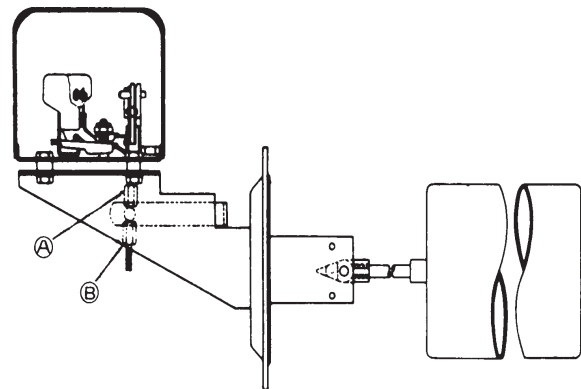

FIGURE 4a
- Adjustment of the pump start and stop points is achieved by adjusting nuts A and B in Fig. 4a. Nut A adjusts the stop point and Nut B adjusts the start point.